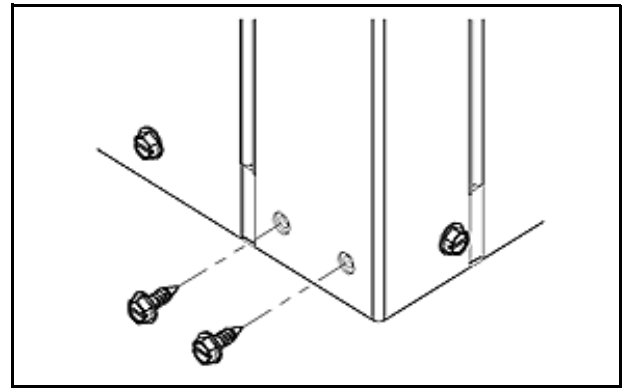

Fig. 7
1. Remove and discard factory provided screws from locations where hanging brackets will be installed as shown in Fig. 7.